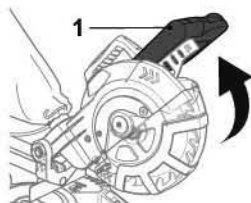

Fig. 38
7. Hold the handle (1) firmly and press the on/off switch (20) (Fig. 38, Step 1). Allow the saw blade to reach maximum speed.
13. Press the blade guard release lever (2) and slowly lower the blade to the workpiece (Fig. 38, Step 2).